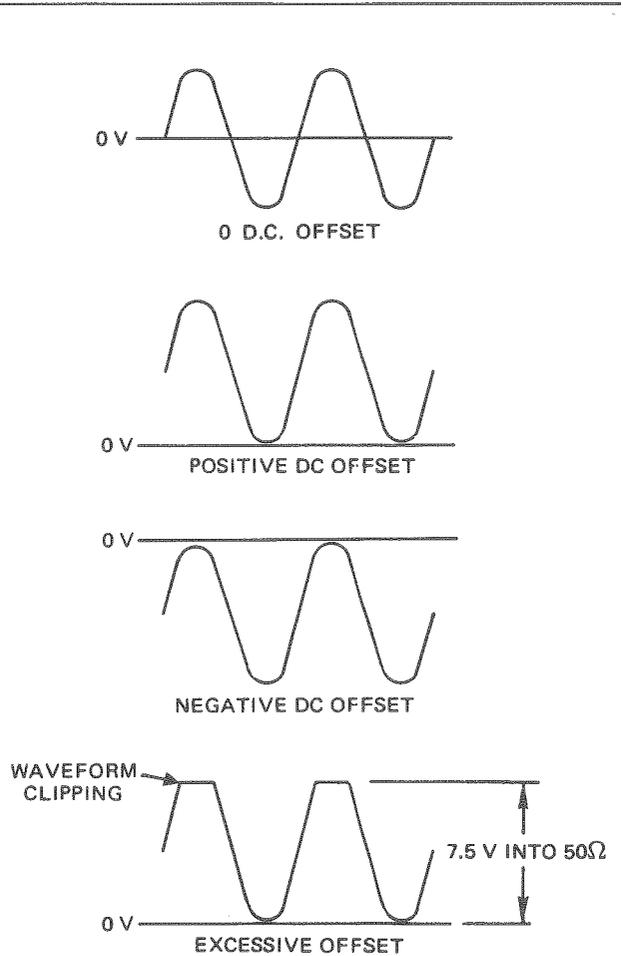

Figure 2-2 - DC Offset Control
8. Select the polarity of dc offset desired and the amount of offset using the rear panel control. If an excessive amount of dc offset is used, waveform clipping may be observed. The sum of peak waveform voltage and the dc offset cannot exceed the maximum rated output of the generator. For example, on the 0 dB attenuator setting the maximum output is 15 V peak-to-peak or 7.5 V peak above and below zero volts. Offset plus peak voltage cannot exceed 7.5 V. See Figure 2-2.